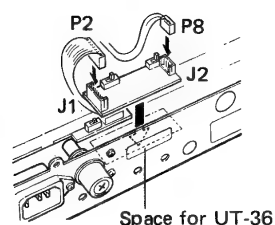

Fig. 4
- 4) Connect P8 (3 pins) from the MAIN UNIT to J2 (3 pins) on the UT-36. (Fig. 4)
- 5) Connect P2 (5 pins) from the LOGIC UNIT to J1 (5 pins) on the UT-36. (Fig. 4)